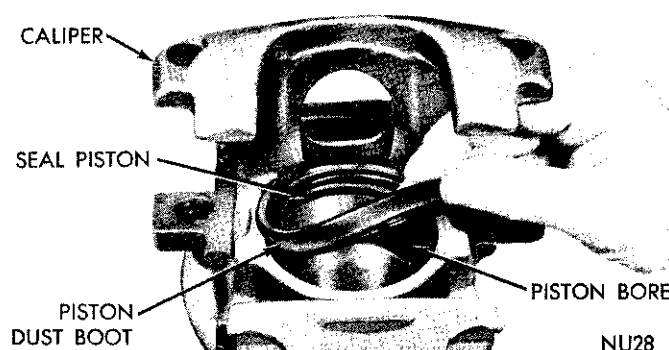

Fig. 11—Removing or Installing Piston Dust Boot
- (2) Remove dust boot. (Fig. 11).